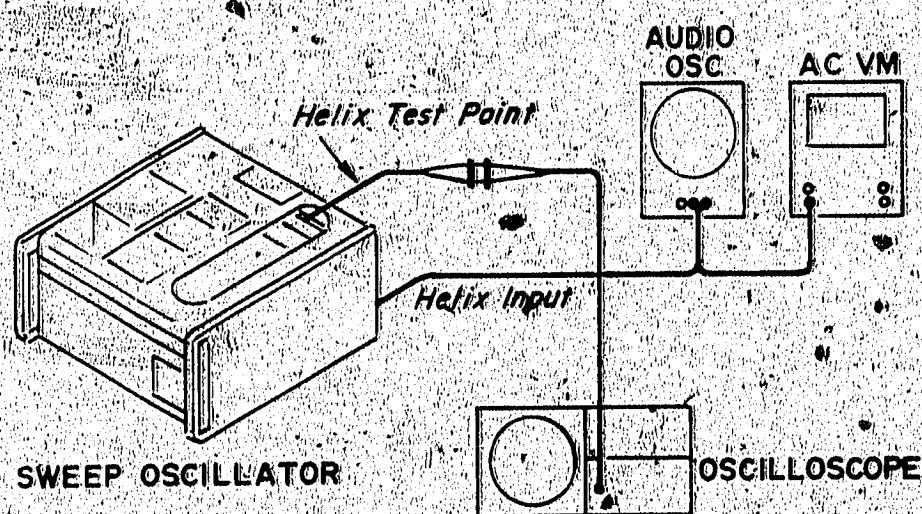

Figure 3. Test Setup for Frequency Response Adjustment
1. Connect the equipment as shown in Figure 3.